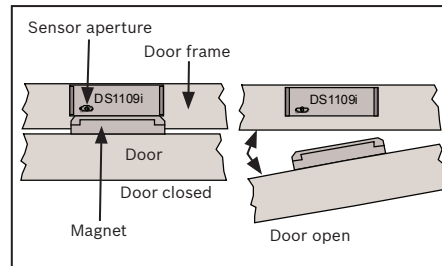

Figure 3.3: View looking up from floor
- The detector must be mounted so that the door swings outward from the detector. Refer to Figure 3.3.